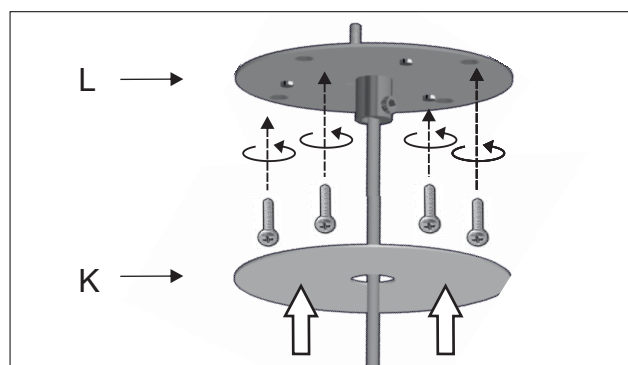

Figure 11
Attach the mounting bracket (L) to the ceiling and install the metal base (K) back in place. Figure 11